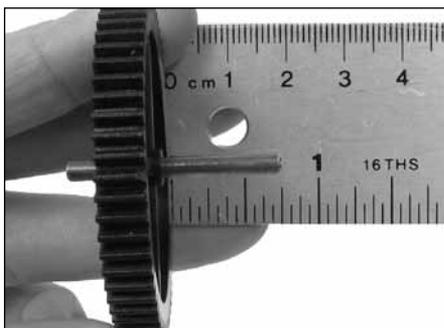

Figure 7
9. Insert the stainless steel axle into the drive gear so about 3/4" of the axle extends from one side (Figure 7).